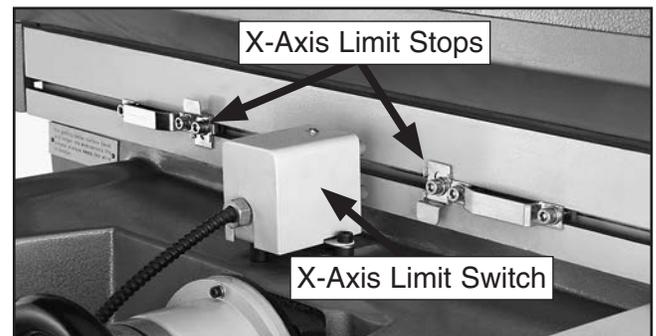

Figure 40. X-axis limit switch and stops.
2. Position X- and Y-axis limit stops (see **Figures 40–41**) so that grinding wheel will cover desired length and width of workpiece surface.